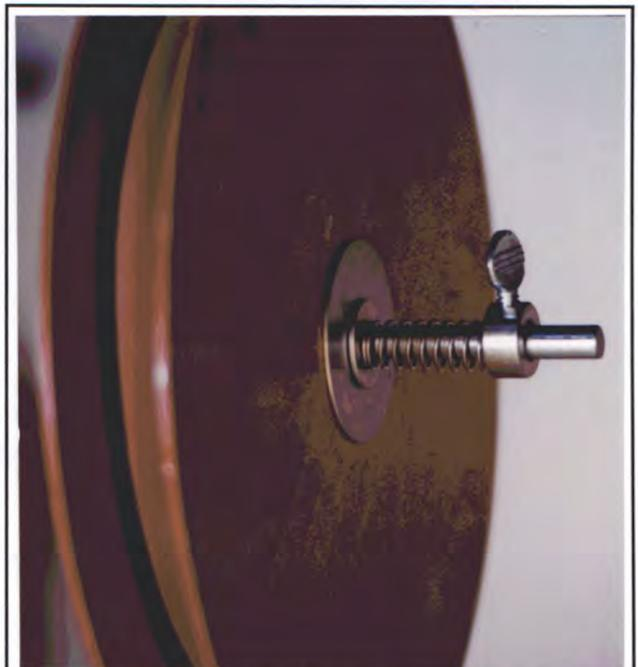

Figure 6: The end of the reel axle showing the reel tension assembly components.
But the reel support structure involves welding, and is difficult to mount on some sewing machine tables. So I chose to replace it with a simpler assembly shown in *figure 5* and *figure 6*. This assembly uses commonly available parts and eliminates all welding.
5. Place the stop sleeve over the bolt and partially compress the spring. Tighten the thumb screw to hold the whole assembly in place. At this point you will have an assembly which looks much like *figure 6*.